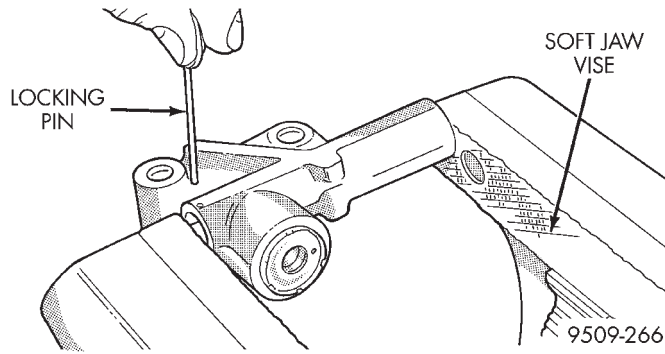

Fig. 63 Timing Belt Tensioner Compressing
- (1) When tensioner is removed from the engine it is necessary to compress the plunger into the tensioner body.
- (2) Place the tensioner into a vise and slowly compress the plunger (Fig. 63).
(3) When plunger is compressed into the tensioner body, install a locking pin through the body and plunger (Fig. 63).